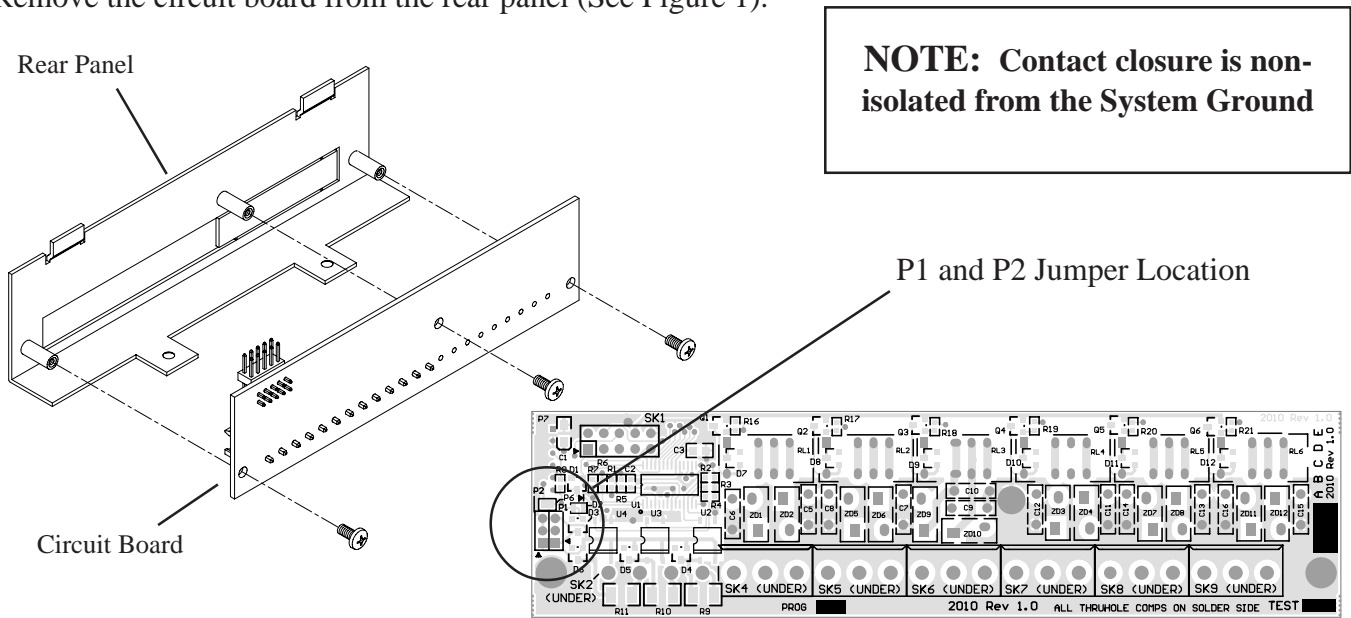

Figure 1 Jumper Location (Mechanical Relay shown - The jumpers for the Solid State Relay are in the same location.)
1. Remove the circuit board from the rear panel (See Figure 1).